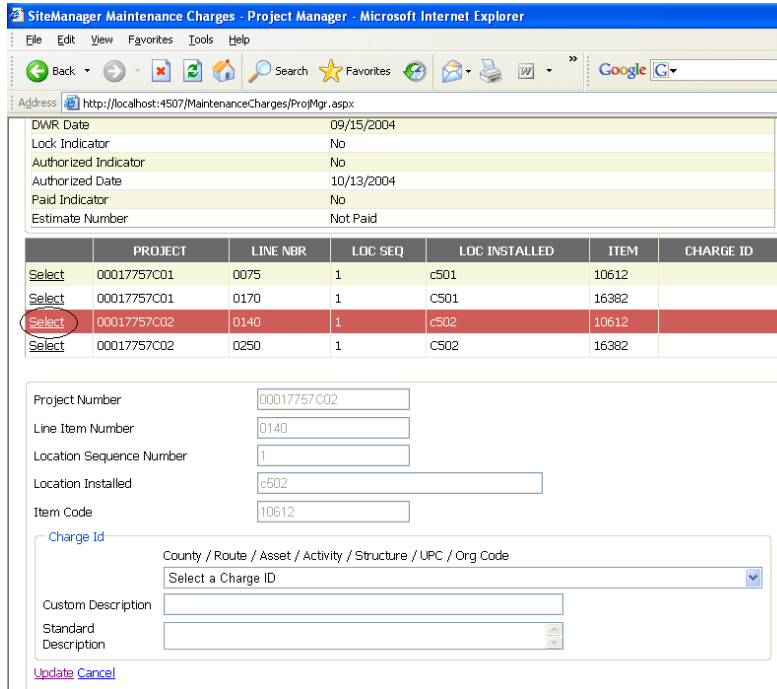

Figure 16
Step 3: Once the DWR Items are retrieved Click “**Select**” from the Pay Item Area to modify/assign the charge. This step populates the details for the Selected Pay Item (Figure 16).